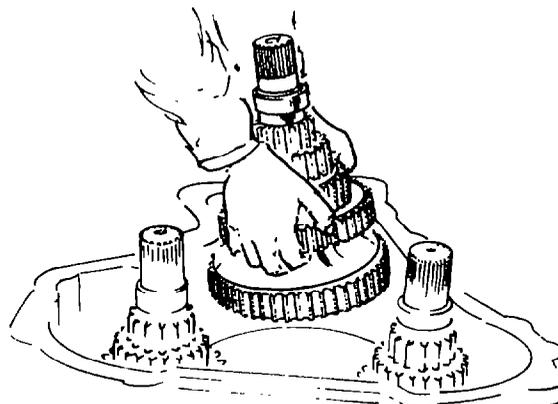

Fig. 183 — Removing Front Countershafts
z. Position the transmission vertically, then remove the three front countershaft assemblies from the case (see fig. 183).